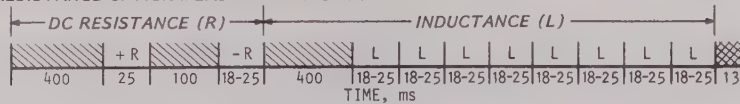

Figure 2-8B.
Settling time may be programmed by the operator. If no settling time is set, the unit defaults to a settling time determined by measurement range and frequency (see Figure 2-8B). Settling times less than default times may cause autoranging to malfunction. To program settling time, push SETTLING TIME button, enter desired settling time in seconds, then push red and SECONDS buttons. Settling time entered must be between 25 milliseconds and 1.2 seconds to nearest 10 milliseconds. For example, to set settling time of 450 milliseconds, push SETTLING TIME, 0, 4, 5, *SECONDS. The display will show .45 seconds as settling time. The unit will accept another digit of resolution when entered, but will truncate it at the 10 millisecond digit.
Settling times for ranges and functions of Model 296 are shown in Figure 2-8B. Settling time is programmable over the range of 25 milliseconds to 1.2 seconds. The effect of settling time changes is shown in the measurement sequence illustrations, Figure 2-8A.
1. **Settling Time** is the time required for the analog voltage representing the unknown to settle to the desired accuracy. Within this period the instrument is autozeroed. Settling times for Stated Accuracy, $\pm 1\%$ and $\pm 3\%$ accuracies are shown in Figure 2-8B.